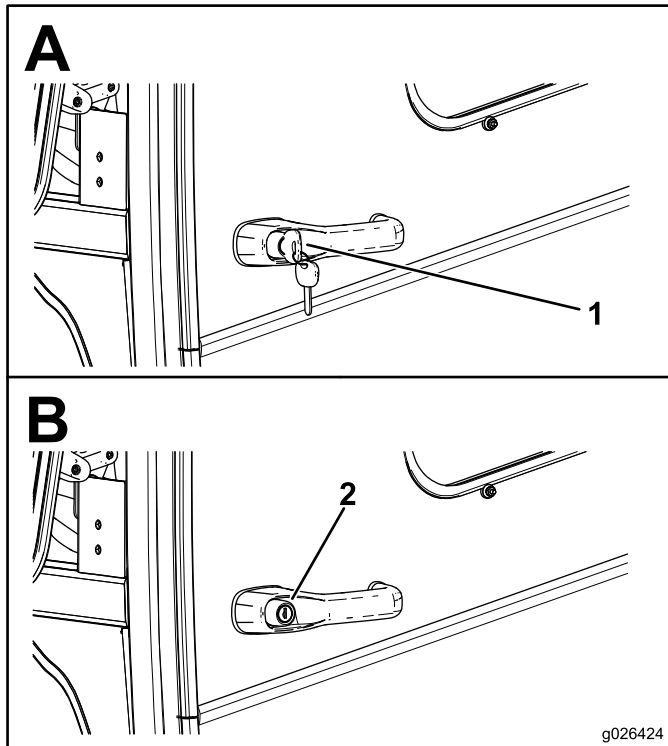

Figure 10
1. Insert the key into the opening on the handle if the door is locked, and rotate the key to the open position (Figure 10).
2. Push the button on the handle and open the door (Figure 10).